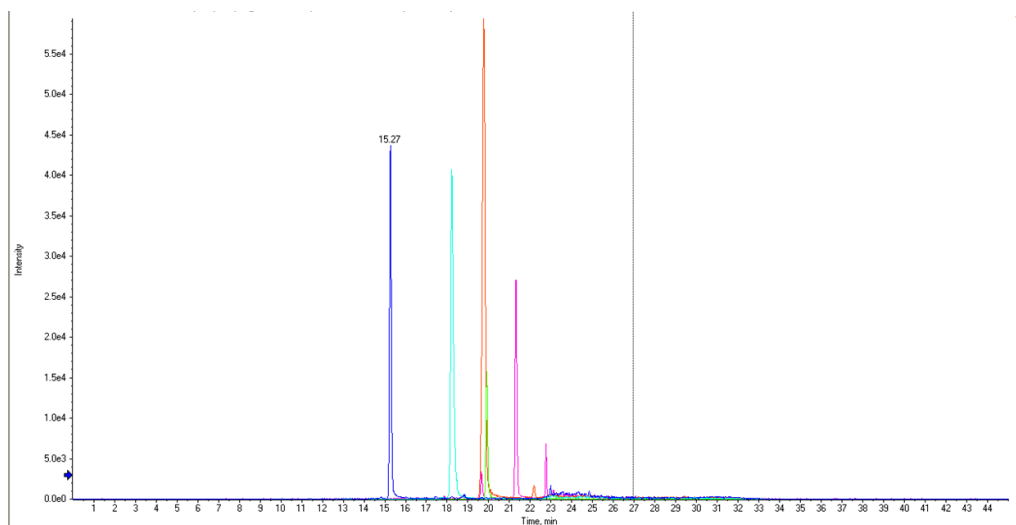

Figure 2-28 MRM XICs of 5 peptides from Beta-Galactosidase NanoLC Ultra pre-column desalting run (10 fmol on column)
3. In the **Extract Ions** dialog, select the 5 MRMs from Table 2-8, and then click **OK**. Figure 2-28 shows typical data for the instrument.
5. Record the retention times of the chosen peaks. This will vary with each system. Time of elution of the first peak (approximately 14 -16 minutes, as shown in Figure 2-28) indicates dead volume of the system. Minimize dead volume where possible.